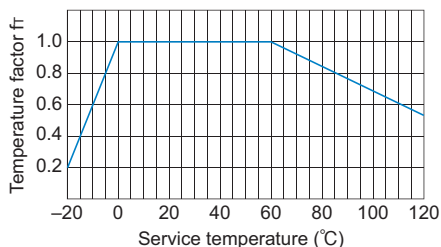

Fig.1 Temperature Factor
If the temperature of the screw nut exceeds the normal temperature range, the seizure resistance of the nut and the strength of the material will decrease. Therefore, it is necessary to multiply the dynamic permissible thrust (F) by the corresponding temperature factor indicated in Fig.1.
f_T : Temperature factor (see Fig.1)